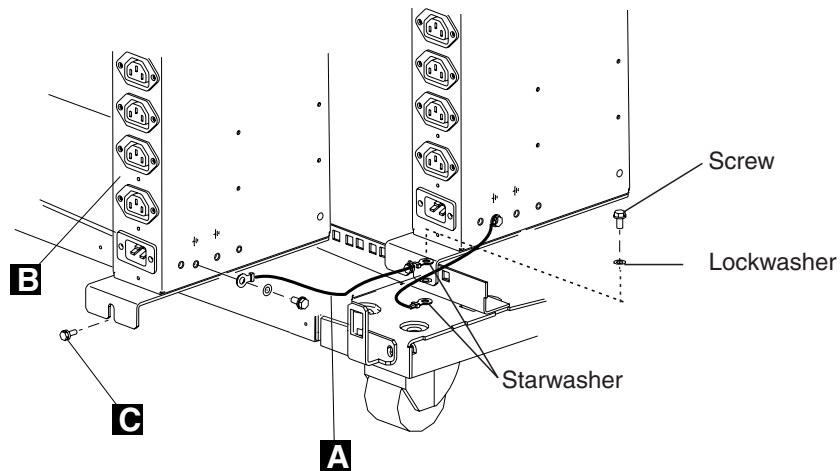

Figure 1-12. Installing the Second ac Outlet Distribution Box
3. Refer to Figure 1-12 on page 1-11, using one lockwasher (PN 1622319), one starwasher (PN 1622347), and one screw (PN1673983), **connect** the ground jumper **A** (PN 63F2459) to the new ac outlet distribution box. Then, **install** the second ac outlet distribution box close to the first ac outlet distribution box and fasten using two screws **C** (PN 1621230).